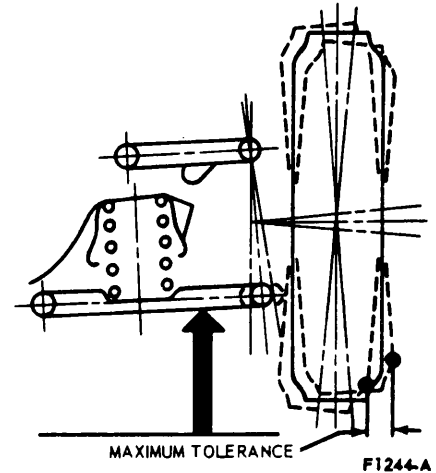

FIG. 11—Measuring Upper Ball Joint Radial Play
1. Raise the vehicle on jacks placed under the lower arms as shown in Fig. 11. This will unload the lower ball joints.
5. Grasp the tire at the top and bottom and slowly move the tire in and out (Fig. 11). Note the reading (radial play) on the dial indicator. If the reading exceeds specifications (Part 3-5), replace the lower ball joint.